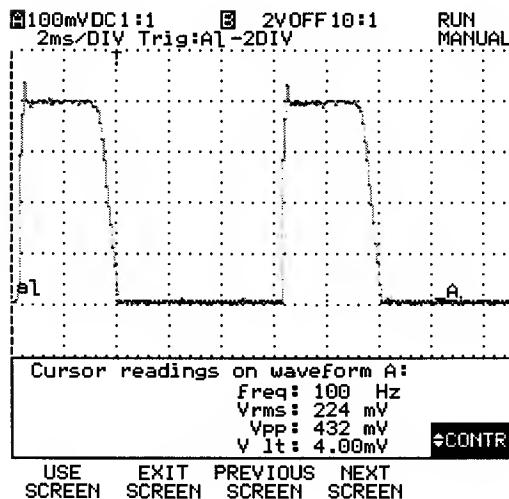

Figure 1 Waveform $t=10ms$, $U=400mV$
- Adjust potentiometer P6001 until the maximum of the signal equals to 400mV. see figure 1 for waveform with the Sonopuls 464 unit switched off,